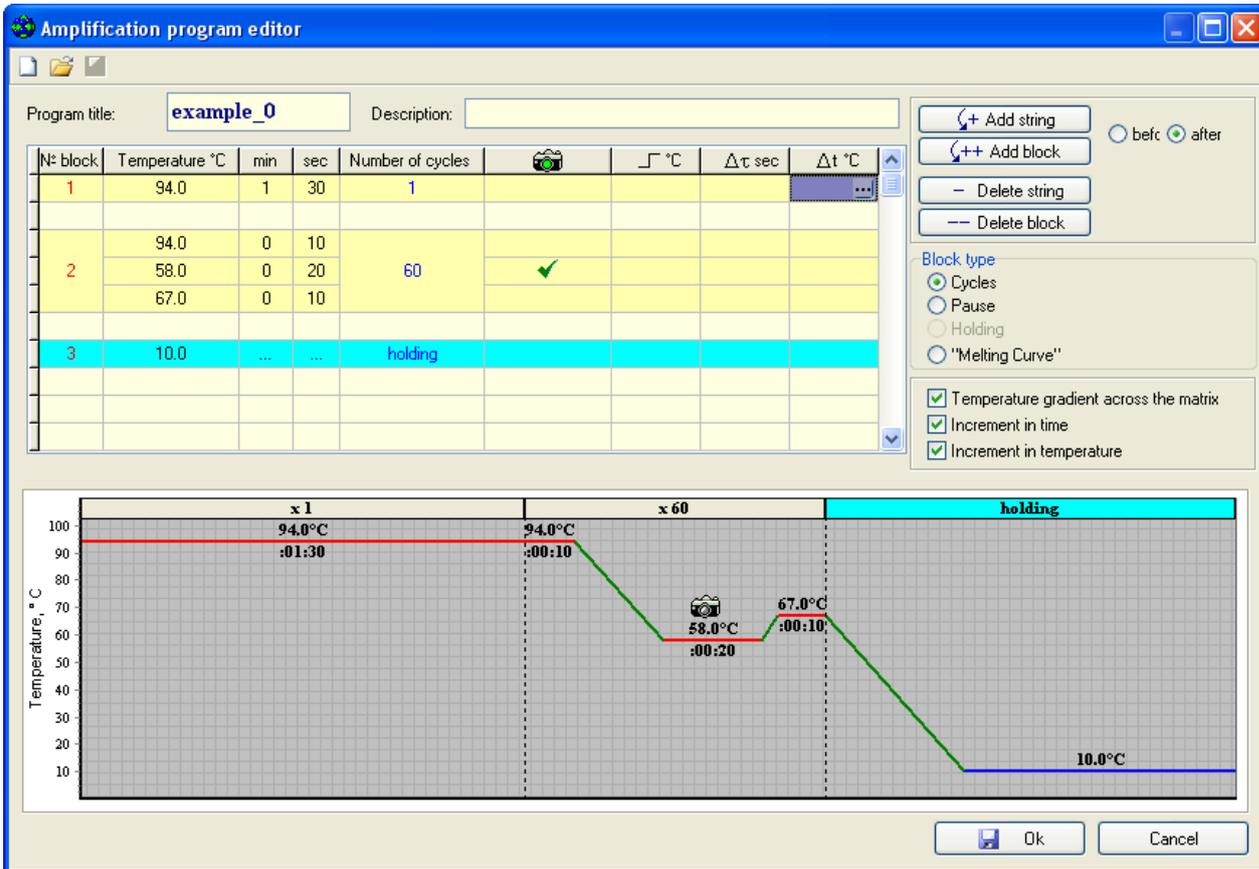

Fig.24 Creation of amplification program using template
2. Create a new amplification program (click ) by using the Amplification program editor or choosing amplification program template (Fig.24).